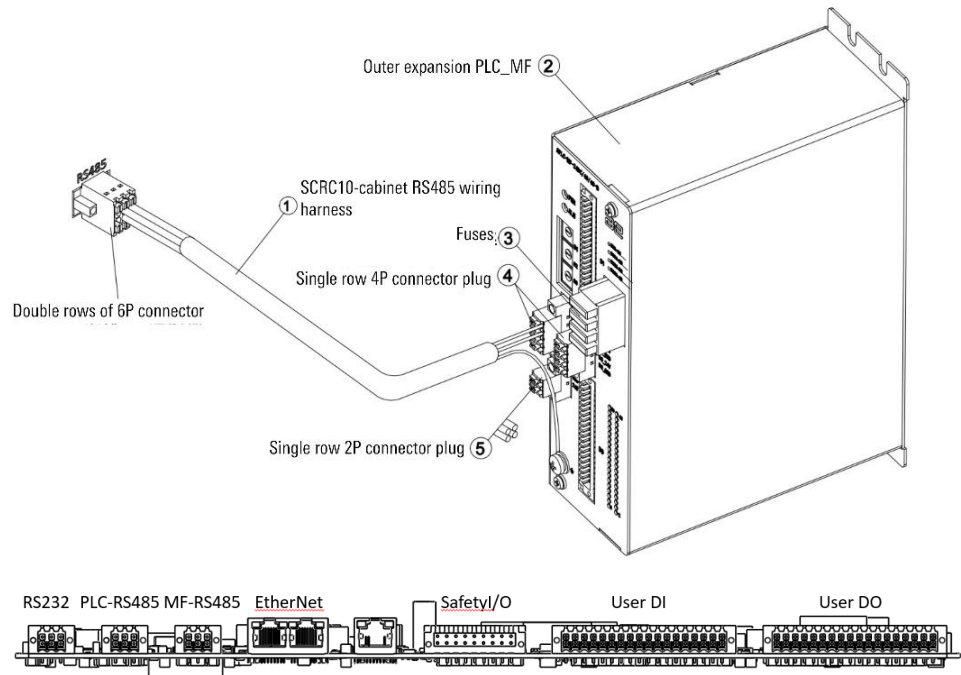

Figure 17-4 Connect to external expansion PLC\_MF
Step2. Connect one end of the SCRC10-outside cabinet RS485 wiring harness with a double-row 6P connector to the MF-RS485 interface on the MCBS board (the interface location is as shown in the figure, open the cabinet door and look from bottom to top, the third 6pin connector from the left), connect the other end of the SCRC10-outside cabinet RS485 harness to the external expansion PLC\_MF, shielding layer Connect to the ground, and the other two signal lines are connected to the "+" and "-" corresponding to X1, refer to Figure 17-4.